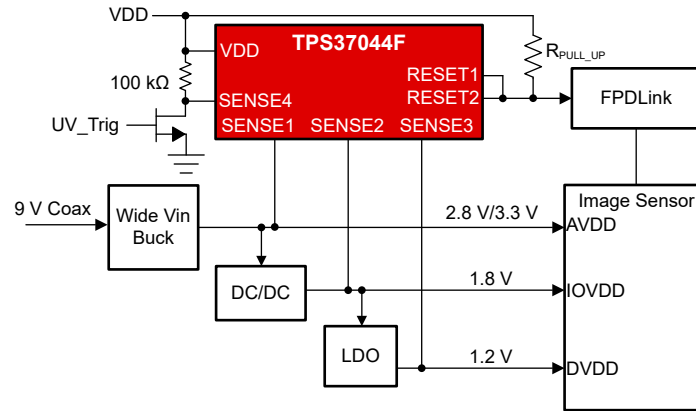

Figure 8-4. TPS37044F-Q1 Quad-Channel Monitoring With Manual Self-Test Option for Functional Safety
Figure 8-4 displays a self-test scheme where a manual self-test function can be implemented. Any SENSEx pin can be reserved and used to trigger a fault to be observed at the output, thus pre-checking the TPS3704-Q1 for fault detection. Because the TPS3704-Q1 is functional safety compliant, it helps elevate applications like the automotive ADAS camera achieve ISO 26262 requirements and automotive safety integrity levels. This example uses a TPS37044F-Q1, configured for separate undervoltage and overvoltage (UV/OV) outputs where the SENSE4 thresholds are set at 5.5 V for OV and 2 V for UV.
Figure 8-4 shows a self-test scheme where a manual self-test function can be implemented. SENSE4 has an overvoltage (OV) threshold that is set at 5.5 V and the undervoltage (UV) threshold set at 2 V. SENSE4 can be connected via a 100-k Ω resistor to VDD. The self-test setup gives the added benefit of a built-in overvoltage detector for the rail powering the TPS37044F-Q1. From a functional safety perspective, a voltage supervisor cannot be considered reliable if the supervisor is operating outside its recommended operated limits.